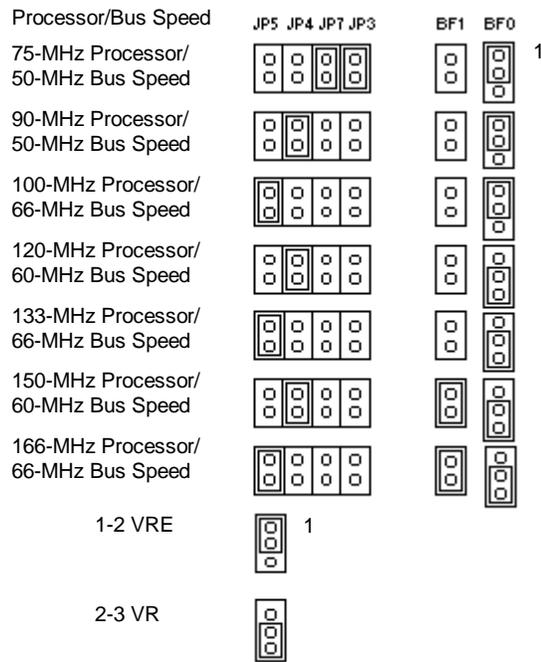

Figure B-2 Processor Upgrade Jumpers
6. Set the Processor/Bus Speed jumpers per Figure B-2.